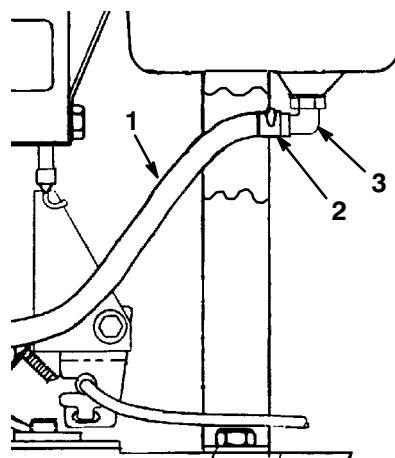

Figure 5
6. Slide the end of the fuel line onto the elbow fitting (Fig. 5).
7. Secure the fuel line in place with the fuel line clamp (Fig. 5).